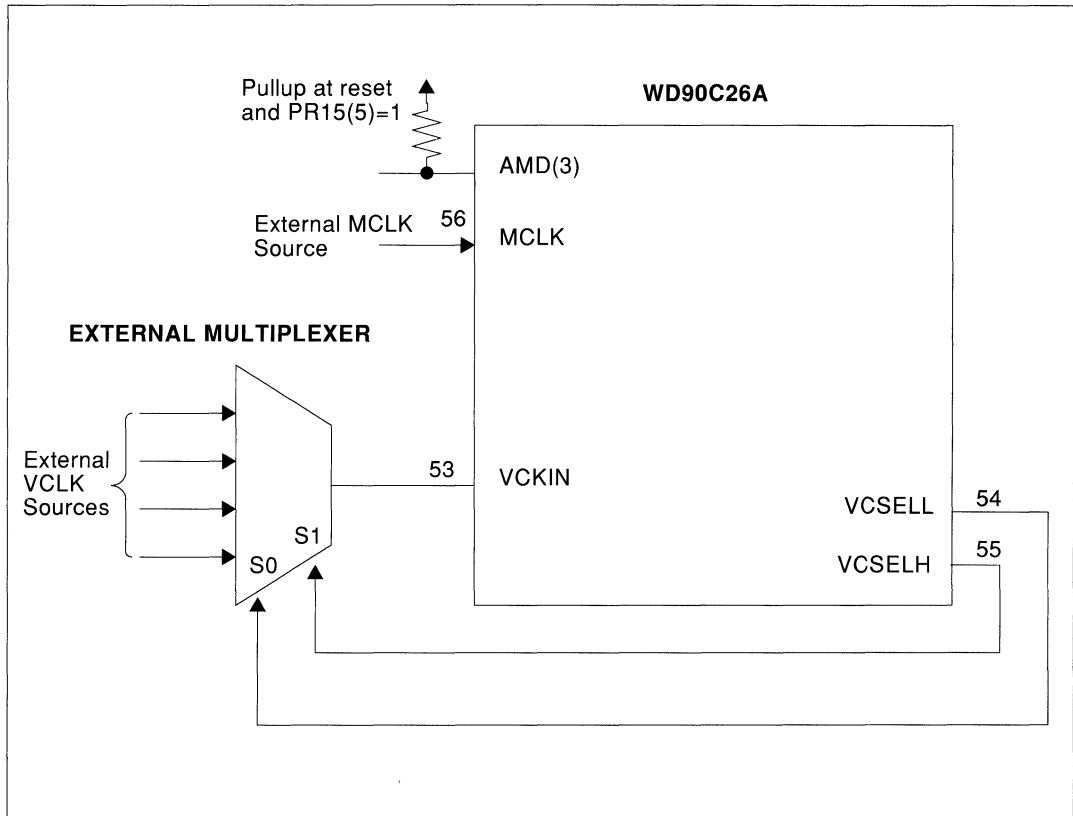

FIGURE 6-19 USING A WD90C26A WITH AN EXTERNAL CLOCK MULTIPLEXER
- Using a WD90C26A with an External Clock Multiplexer (see Figure 6-19).